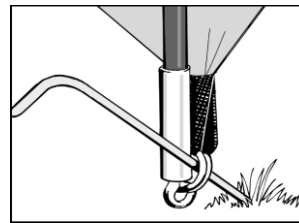

Figure 2.
- Secure the tent by putting pin pegs through the Ring & Pin system (see fig. 2).
2. Peg the corners of the tent through the metal rings using pin-pegs. It is important to drive the peg into the ground at a 45 degree angle to obtain the best grip. (See Figure 2).